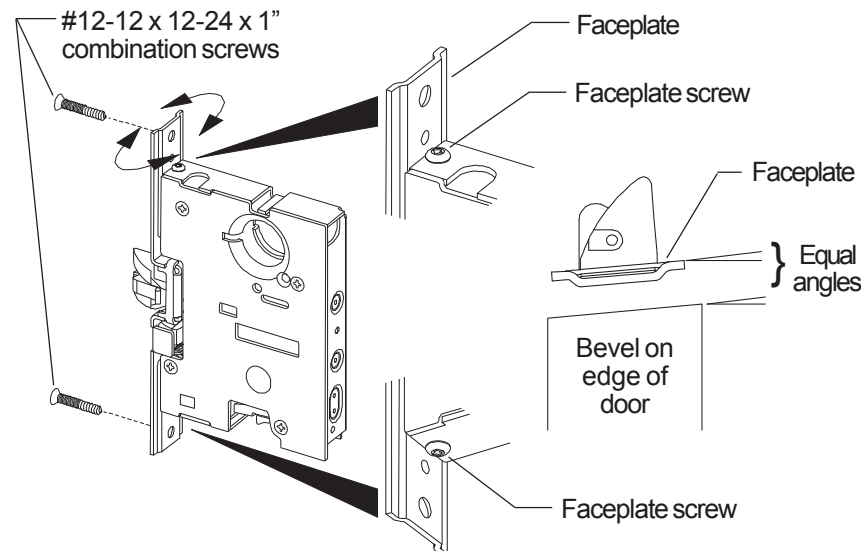

Figure 2
7. Install threshold lock (see Figure 2).
3. Adjust faceplate for door bevel (Figure 2):